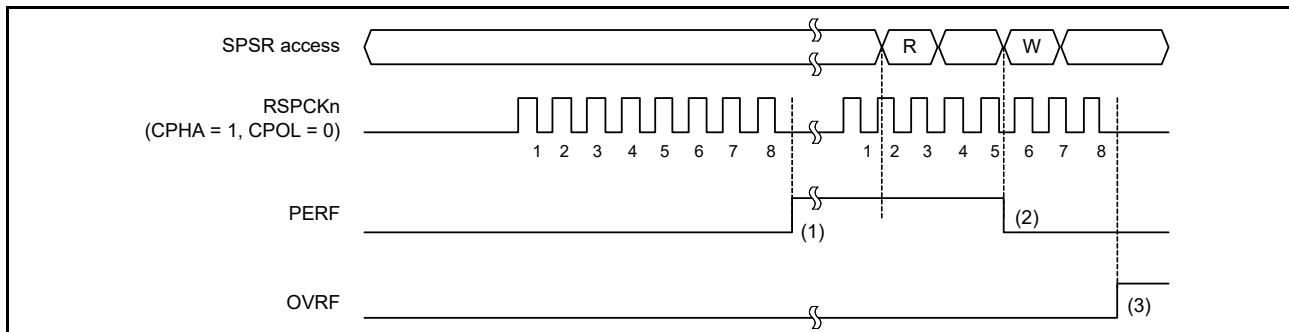

Figure 30.31 Operation example of the OVRF and PERF flags
Figure 30.31 shows an example operation of the OVRF and PERF flags. The SPSR access shown in Figure 30.31 indicates the condition of access to the SPSR register, where W denotes a write cycle, and R a read cycle. In the example, full-duplex synchronous serial communications is performed while the SPCR.TXMD bit is 0 and the SPCR2.SPPE bit is 1. The SPI performs an 8-bit serial transfer in which the SPCMD0.CPHA bit is 1 and the SPCMD0.CPOL bit is 0. The numbers given for RSPCKn in the waveform represent the number of RSPCK cycles, such as the number of transferred bits.
The operation of the flags at timing (1) to (3) in Figure 30.31 is as follows:
- (1) If a serial transfer terminates with the SPI not detecting an overrun error, the SPI copies data in the shift register to the receive buffer. The SPI checks the received data at this time and sets the PERF flag to 1 if a parity error is detected.
- (2) If 0 is written to the PERF flag after the SPSR register is read when the PERF flag is 1, the PERF flag is set to 0.
- (3) When the SPI detects an overrun error and serial transfer is terminated, data in the shift register is not copied to the receive buffer. The SPI does not perform parity error detection at this time.